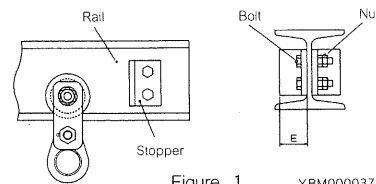

Figure 1 YBM000037
- Prepare stoppers according to Table 1 and Figure 1. Decide the mounting position depending on the wheel size.